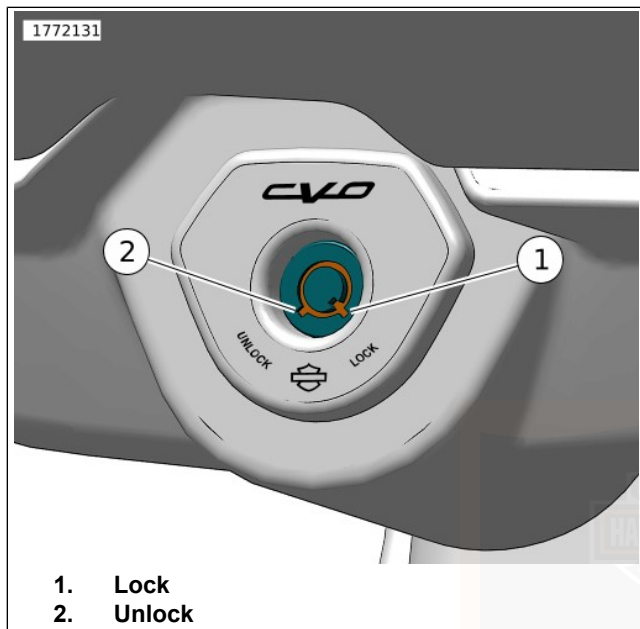

Figure 25. Fork Lock
See Figure 25. The fork lock is on the dash panel. Using the fork lock immediately after parking your motorcycle will discourage unauthorized use or theft. The fork lock can be locked and unlocked with the ignition key.
2. See Figure 25. Insert key and turn one-quarter turn counterclockwise to lock. Remove key.
1. See Figure 25. Insert key and turn one-quarter turn clockwise to unlock. Remove key.